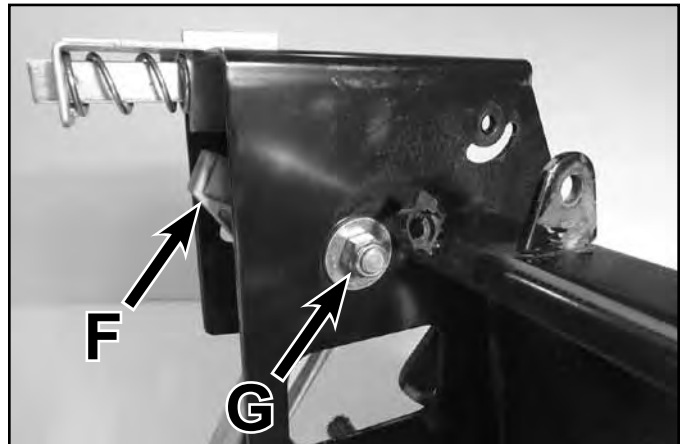

Fig. 031
6. Remove the activator arm pivot bolt and nut (G) and the activator arm assembly (F) from the control box (Fig. 031).